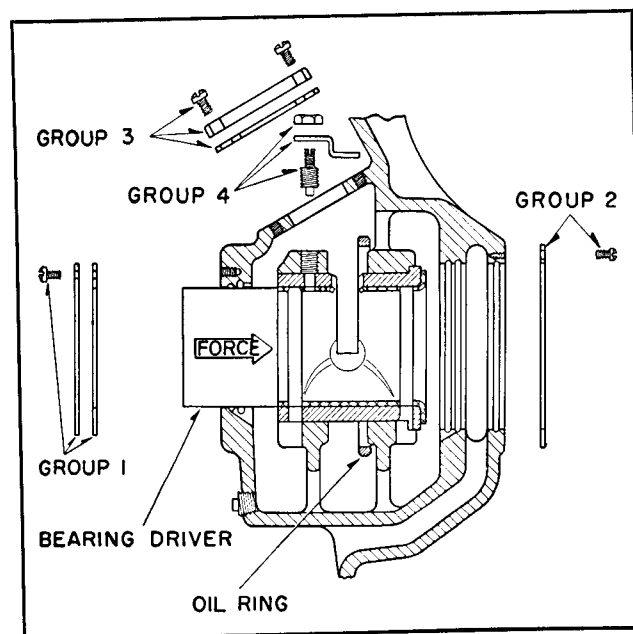

FIG. 6. Detail of Solid Sleeve Bearing
2. Remove oil ring inspection cover. (Group 3 of Fig. 6.)
4. Remove bearing locking screw and oil ring keeper. (Group 4 of Fig. 6.)
5. Remove outer and inner bearing caps. (Groups 1 and 2 of Fig. 6.)
7. Tap the bearing out toward the inside by placing a bearing driver or rod against the bearing shoulder. See Fig. 6.